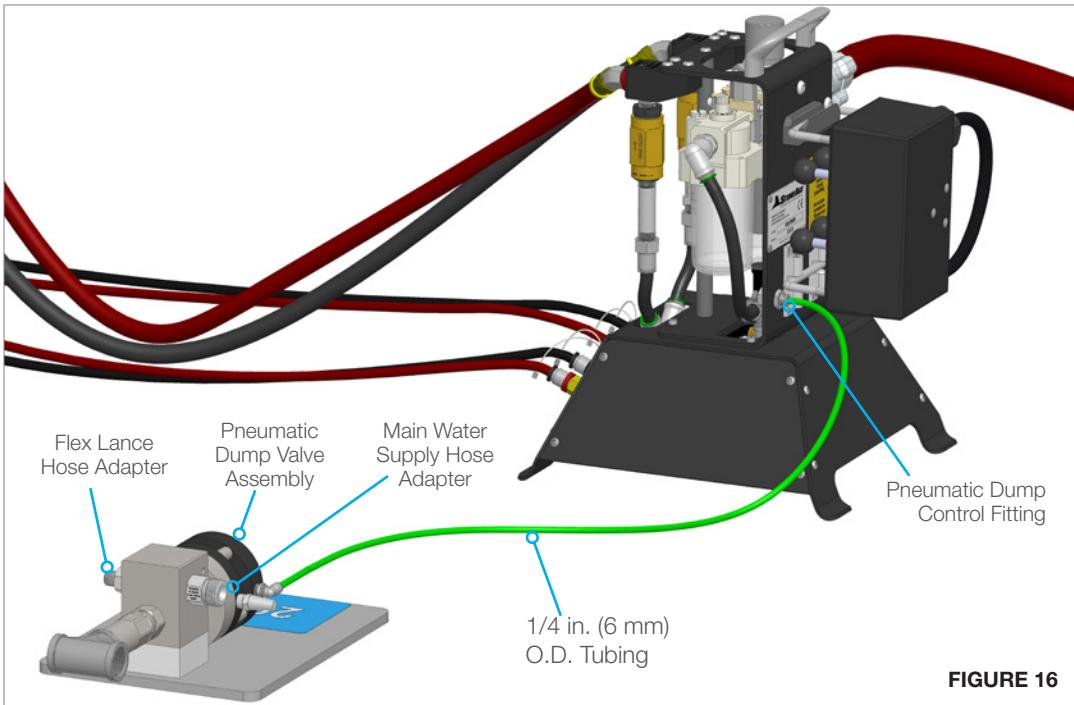

FIGURE 16
25. Install the 1/4 in. (6 mm) O.D. Tubing between the Pneumatic Dump Control Fitting located on the back of the Control Box and the fitting on the Pneumatic Dump Valve Assembly. (**Figure 16**)
26. Install Main Water Supply and Flex Lance Hose Adapters. Be sure to use the appropriate anti-seize, thread lubricant, and/or pipe tape as recommended in the StoneAge Tool Fittings and Accessories Catalog at the link below. (**Figure 16**)